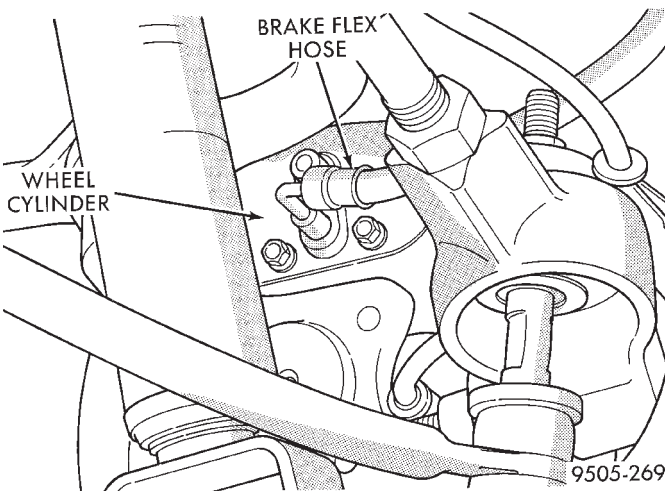

Fig. 77 Brake Flex Hose Tube At Wheel Cylinder
(5) Remove rear brake shoe assemblies from the brake support plate. Refer to Rear Brake Shoes in the Removal And Installation Section in this group of the service manual for the proper brake shoe assembly removal procedure.
(6) Disconnect rear brake flex hose tube from wheel cylinder and remove the brake flex hose bracket from the brake support plate (Fig. 77).